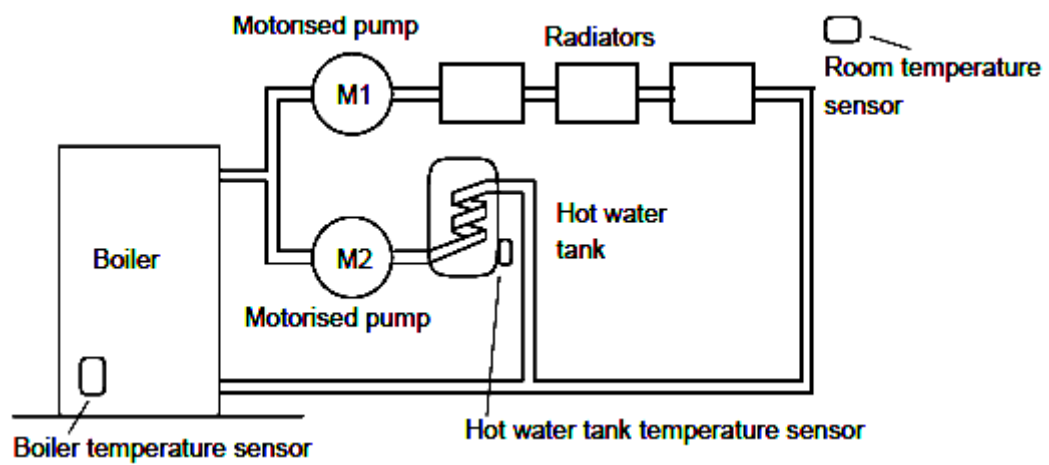

Figure-2
- (b)** Develop a ladder diagram for temperature measurement and control system shown in Figure-2. **07**
- (b)** A controlling variable is a motor speed that varies from 800-1750 rpm. If the speed is controlled by a 25 to 50v dc signal, calculate (1) the speed produced by an input of 38v, (2) an input voltage require for speed 1446 rpm and (3) the speed calculated as a percent of span. **07**